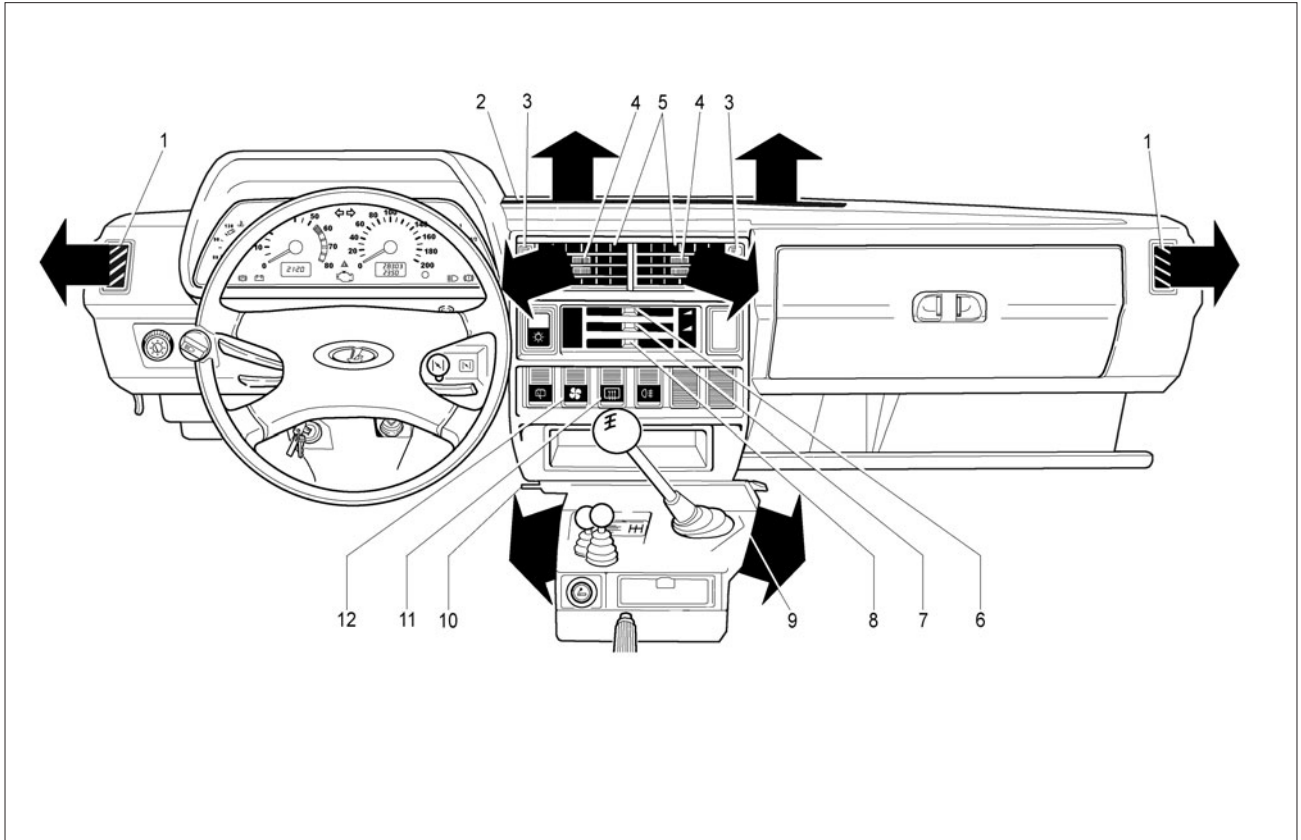

Fig. 25. Interior ventilation and heating controls
- through nozzles 2 (Fig. 25) of windscreen blowing if distribution arm slide 8 and arm slide 7 of air intake flap control are moved right;